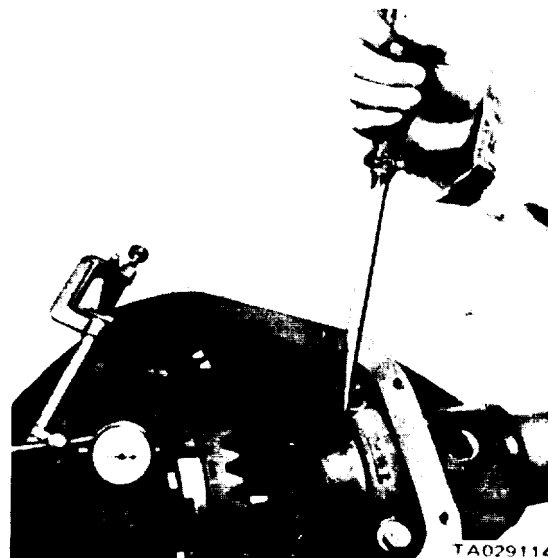

Figure 19-12. Determining Shims to Obtain "O" End Clearance.
(5) Position the differential bearing cups on their respective cones and insert the differential case in the carrier. Install the bearing caps in their correct positions. Tighten the bearing cap bolts finger-tight.
(6) Install the dial indicator fixture with the indicator pointer contacting the back face of the drive gear.
(7) Insert a screwdriver blade between the bearing cup and housing, and pry the case assembly as far as possible to one side of housing (figure 19-12). Set the dial indicator at zero. Using a screwdriver, pry the case to the opposite side of the housing and record the reading. This reading indicates the amount of shims needed to take up the clearance between the differential bearing cups and the case. The shim pack thickness to be placed on the bearing hub between the bearing cone and the differential case will be calculated later in the procedure after you install the drive pinion and determine depth of mesh setting.
(8) Remove the dial indicator, loosen the bearing cap bolts and remove the bearing caps. Remove the differential assembly from the housing.